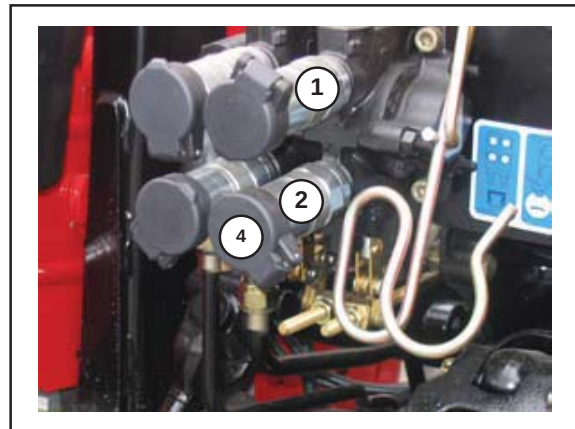
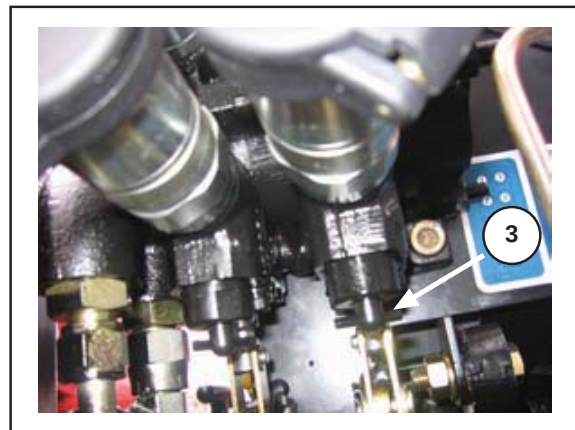

Fig. 65
Fig. 66
Hydraulic self-sealing, quick-release, couplers are situated at the rear of the tractor (Fig. 65). Hydraulic hoses can be coupled or uncoupled, without any loss of oil. A decal is positioned near the quick-release couplers which shows the numbered connectors which correspond to the control lever movements. Before attaching the hoses be sure that the quick-release couplers and hose ends are clean and free from dirt.
To connect, push the implement hose connector into the quick-release coupler. To disconnect, with the engine stopped, relieve any pressure by operating the control levers through their entire range at least twice. Push the coupler slightly into the connector and then pull out quickly. The couplers will automatically uncouple and seal, preventing any loss of oil. After disconnecting, put protective covers (4, Fig. 65) on all hose connectors to prevent dirt getting in.
To operate single-acting rams, screw the control spindle (3, Fig. 66) fully out, and use only the coupler marked (1, Fig. 65). Ensure that the implement hoses are correctly connected to the tractor couplers. Refer to the appropriate implement Operator Instruction Book.
To operate double-acting rams, screw the control spindle (3, Fig. 66) fully in, and attach the hose from the side of the ram which causes it to extend, to the coupler marked (1, Fig. 65) and the return hose to the coupler marked (2). To extend the ram, pull the lever back. To retract the ram, push the lever forwards.
1. Always connect the motor feed to the coupler (1 or 2, Fig. 65).